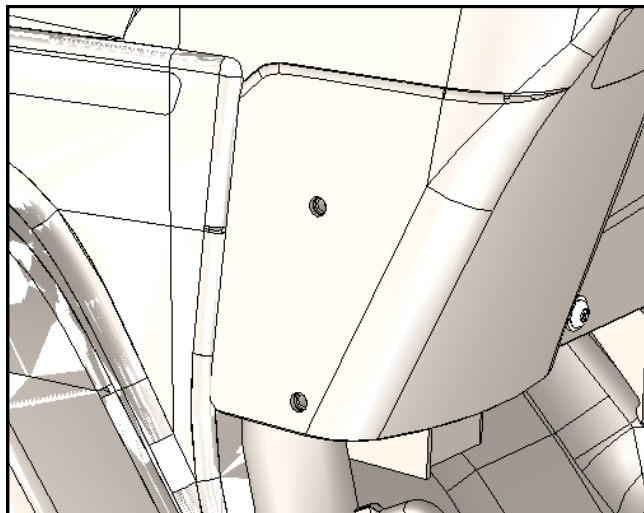

Fig. 1.6 (Fir Tree Clips Removed)
- 1.6 Remove the plastic fir tree clips from the left side of dashboard. See **Fig 1.6**.